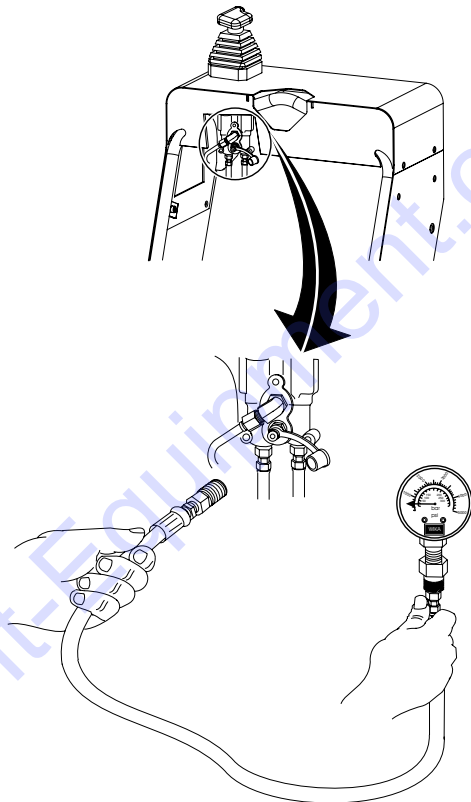

Figure 58. Steering Pressure Check
1. Remove the left-side access cover and insert the test pressure gauge (300 to 600 psi) into the left steering valve's diagnostic quick coupler as shown in Figure 58.